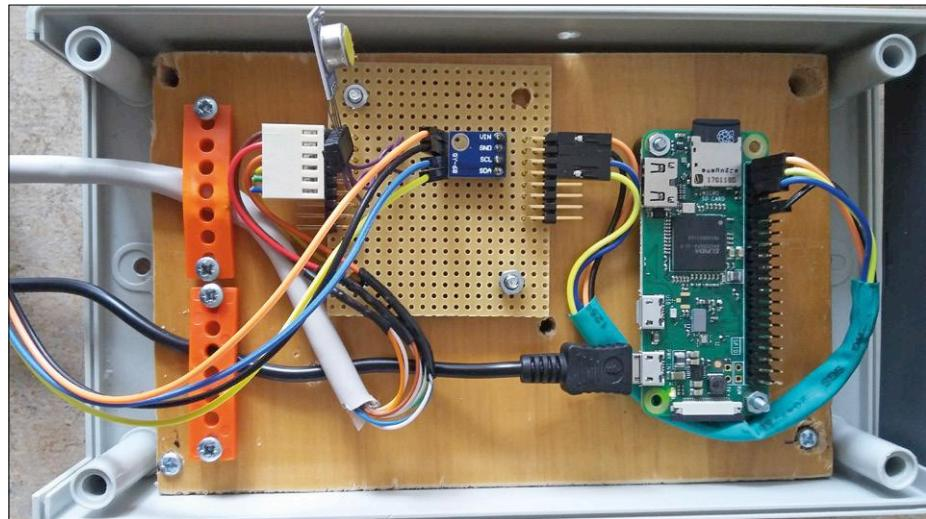

Figure 8. The author's prototype.
**Figure 8** shows the author's prototype fitted in a small plastic enclosure. The USB power cable for the RPi exits through a strain relief, as does the four-wire UTP cable for the wind gauge. In the prototype this cable is 5 m long, which does not cause any problems for data transmission over the bus, and it is also protected by a strain relief. This allows the wind gauge to be mounted well above the roof, with the rest of the electronics located indoors. The addresses used for the devices on the I2C bus are listed in **Table 2**.